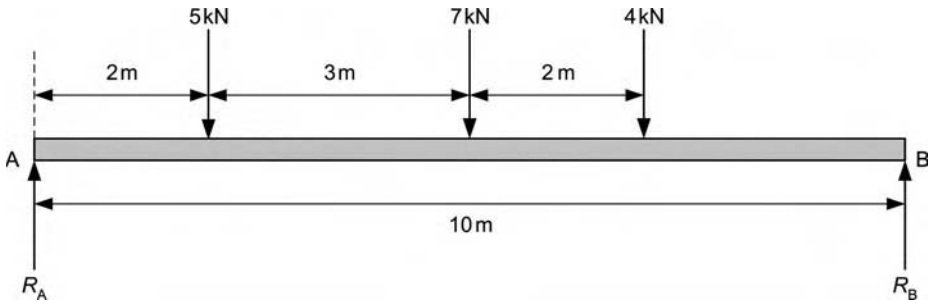

Figure 4.40 Beam system.
2. Determine the reactions at the supports for the beam system shown in Figure 4.40. Assume the beam has negligible mass.